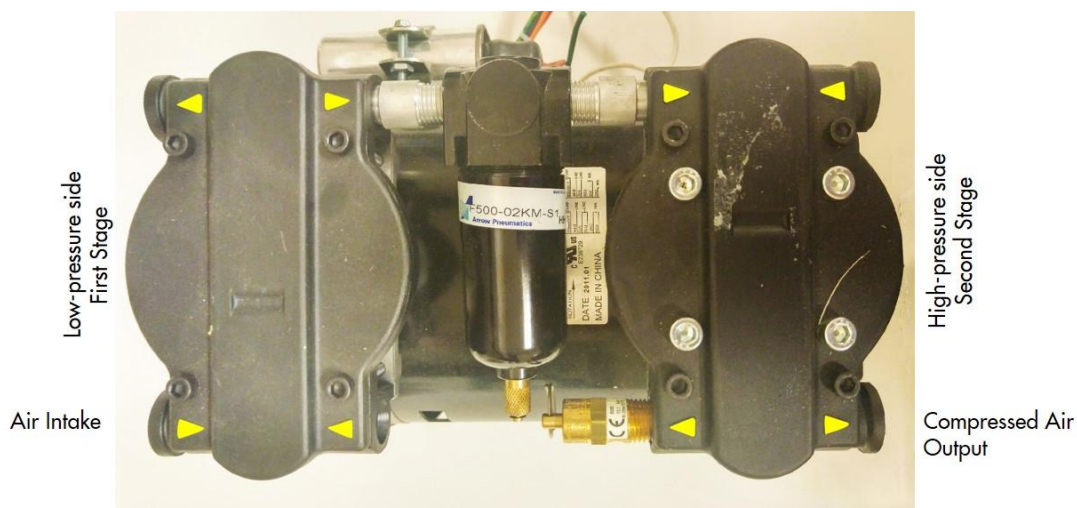

Fig. 1
4. **IMPORTANT STEP:** Note the orientation of the ports so that the head covers are reassembled correctly. Label them if necessary. (Fig. 1)